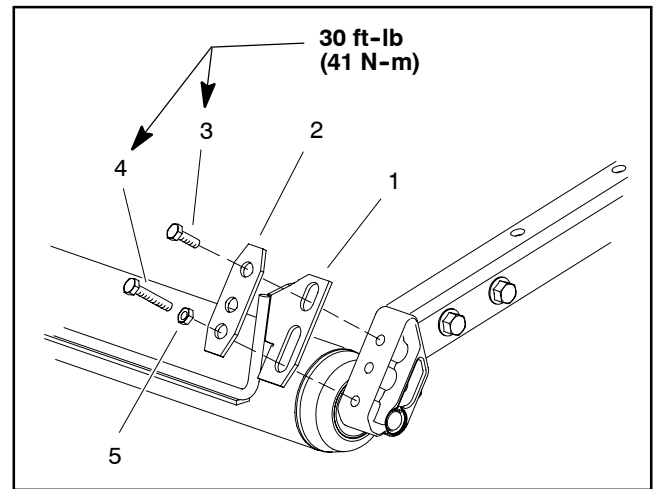

Figure 5
1. If cutting unit is equipped with rear roller scraper, remove fasteners securing left and right scraper rod brackets to roller mounts (Fig. 5). Remove scraper rod assembly.
2. Remove four (4) flange head screws that secure roller mounts to rear of deck frame. Remove roller mounts and rear roller assembly from deck frame.
3. If equipped with scraper rod, install and adjust scraper rod assembly to roller mounts (Fig. 5). Torque cap screws 30 ft-lb (41 N-m) and tighten jam nut to secure scraper rod and rear roller to cutting deck.